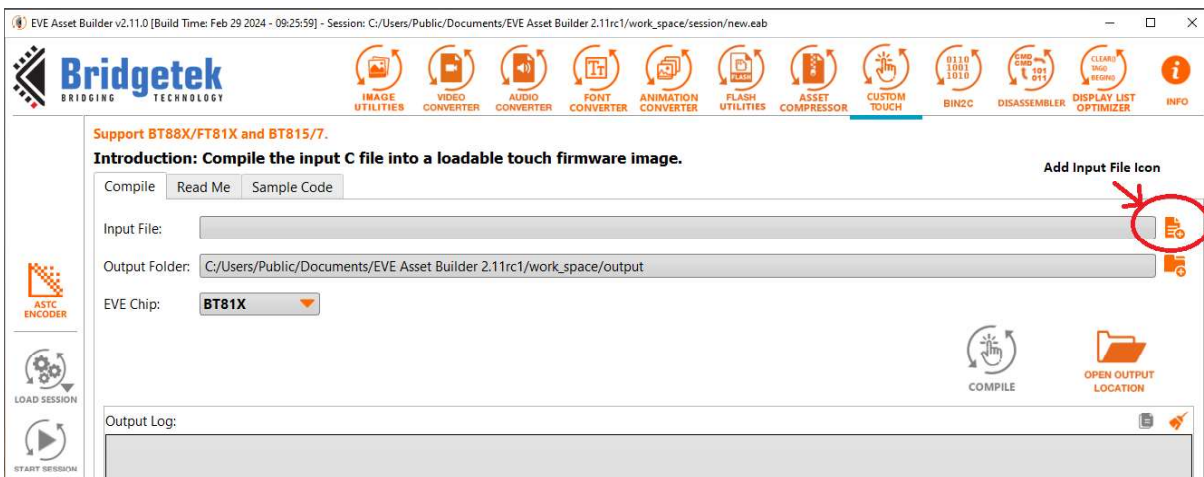

Figure 4 – EVE Asset Builder –Add Input File
2. Click on the "Add input file icon" to add the file of the desired custom touch source code as shown in Figure 4.